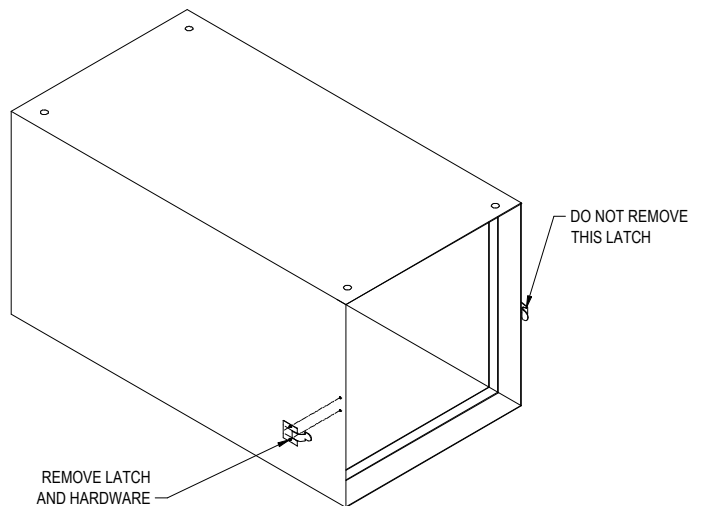

FIGURE 3
2. Remove the spring latch from MX 1800 as shown in **FIGURE 3**.